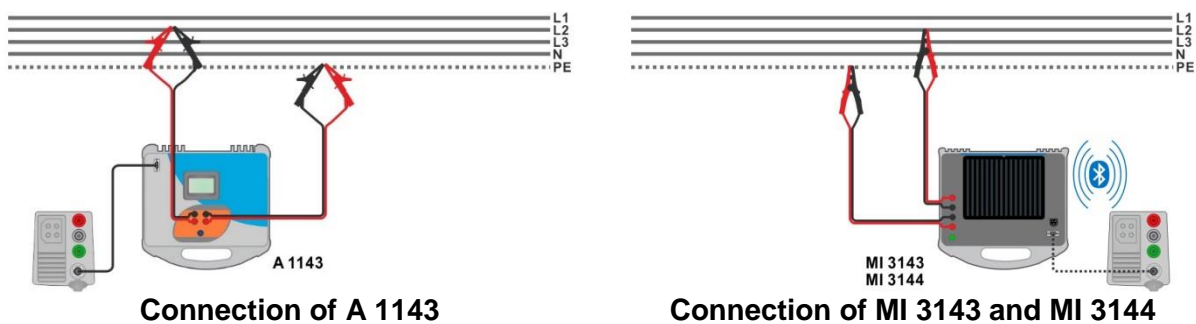

Figure 7.59: High precision loop impedance measurement – Connection of A 1143
- › Connect test leads to the object under test, see **Figure 7.59** and **Figure 7.60**.